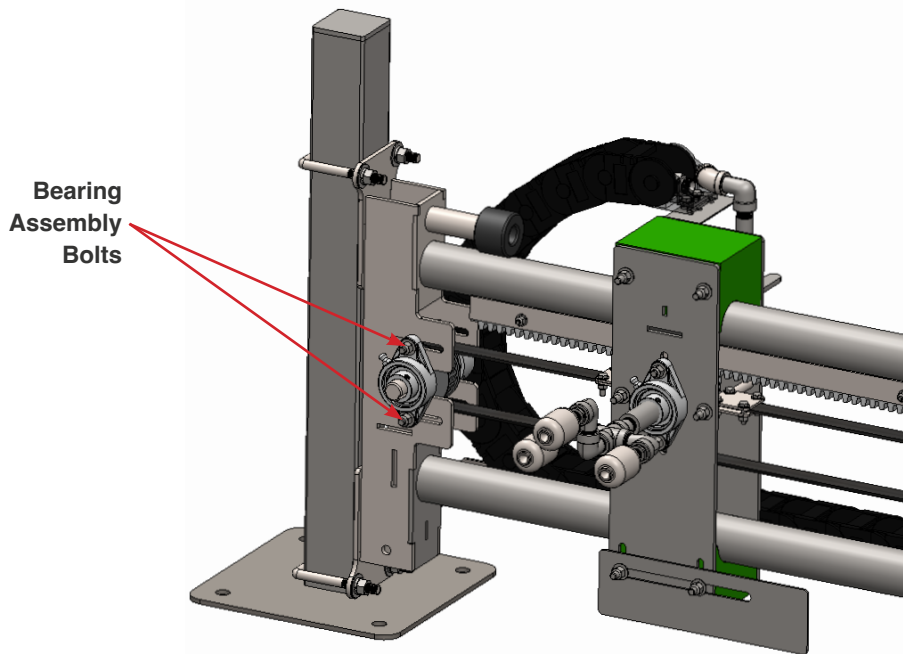

Fig. 7.2.7 - 1 - Belt bearing assembly bolt location
2. Loosen the bolts holding bearings at the end of the belt (Fig. 7.2.7 - 1). This will be the end opposite the motor (traditionally exit end of wash).